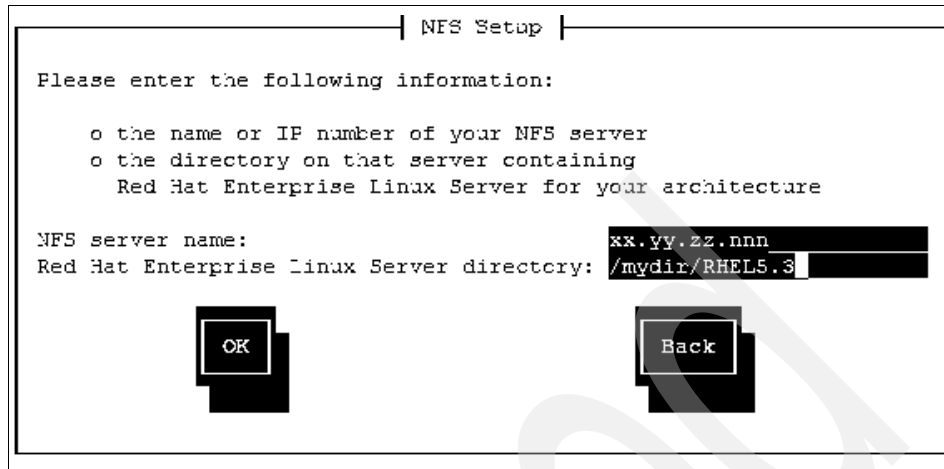

Figure 8-13 NFS server configuration window panel
8. In the NFS Setup window, shown in Figure 8-13 on page 339, enter the IP address of the NFS server, and enter the NFS directory that contains the Red Hat Enterprise Linux 5.3 installation image.